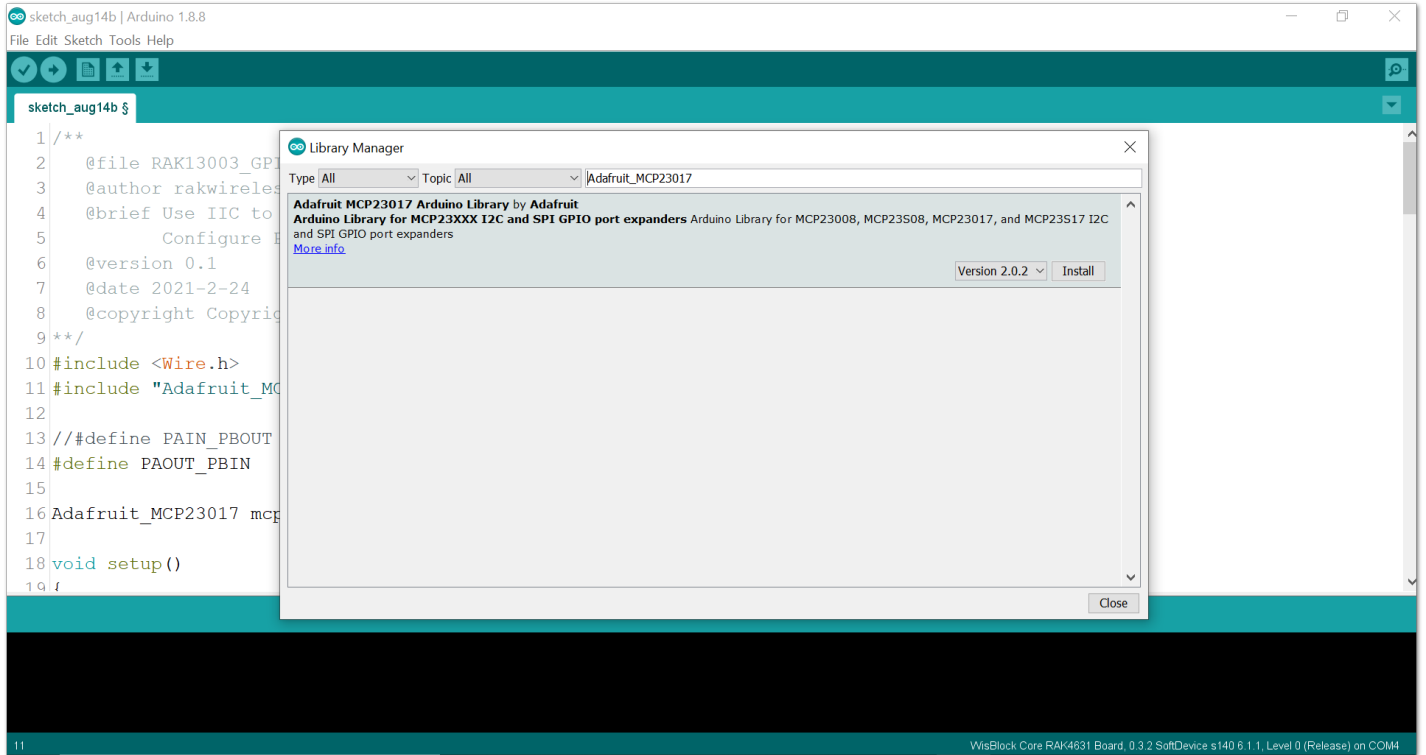

Figure 8: Installing the Library
3. Install the required library, as shown in **Figure 8**.